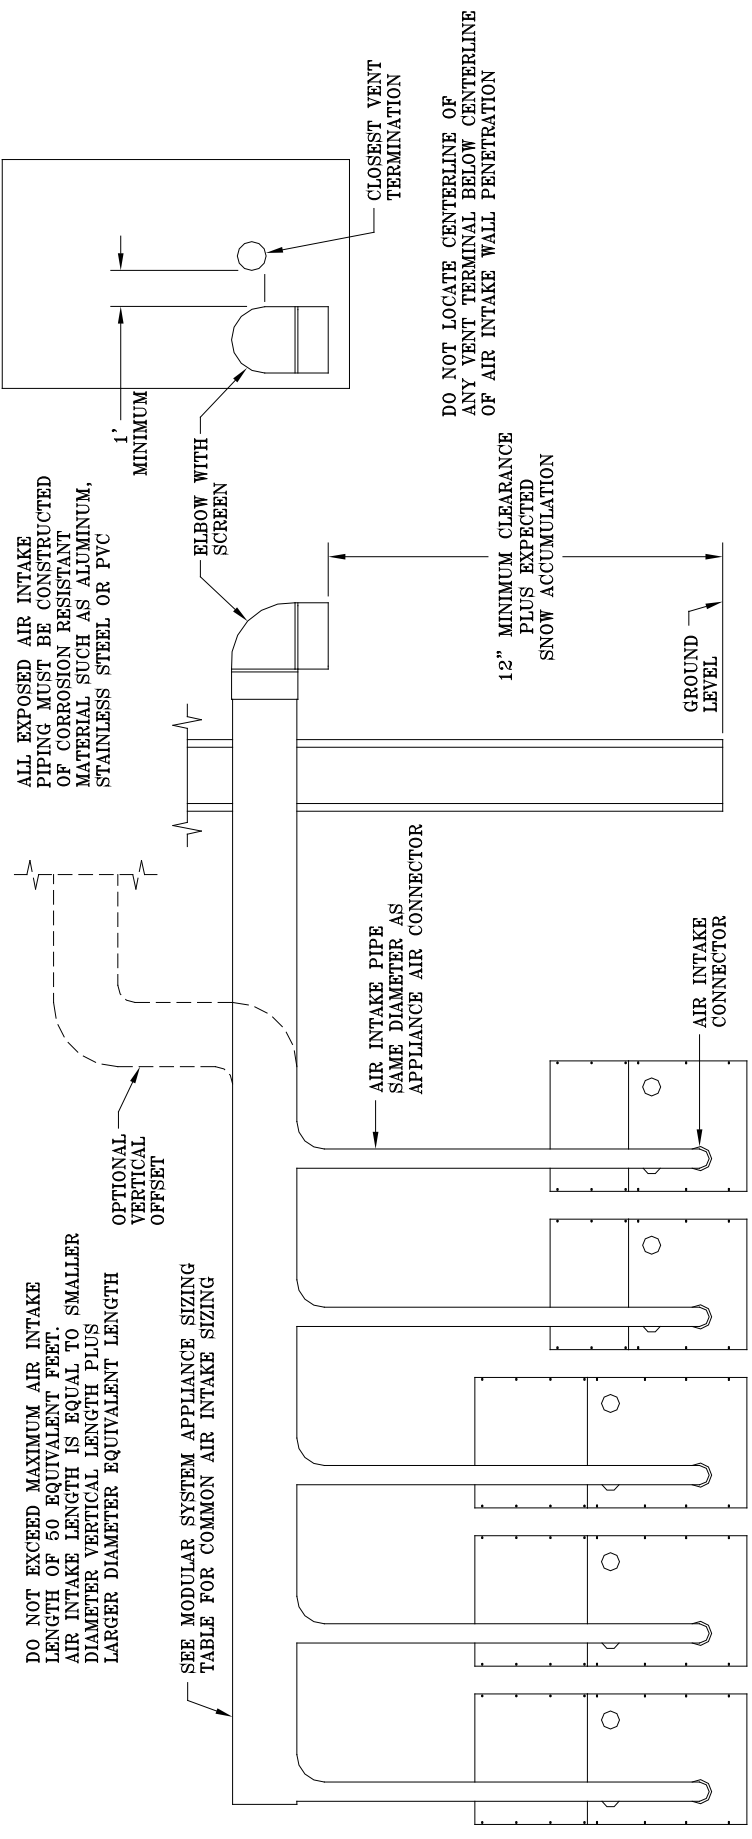
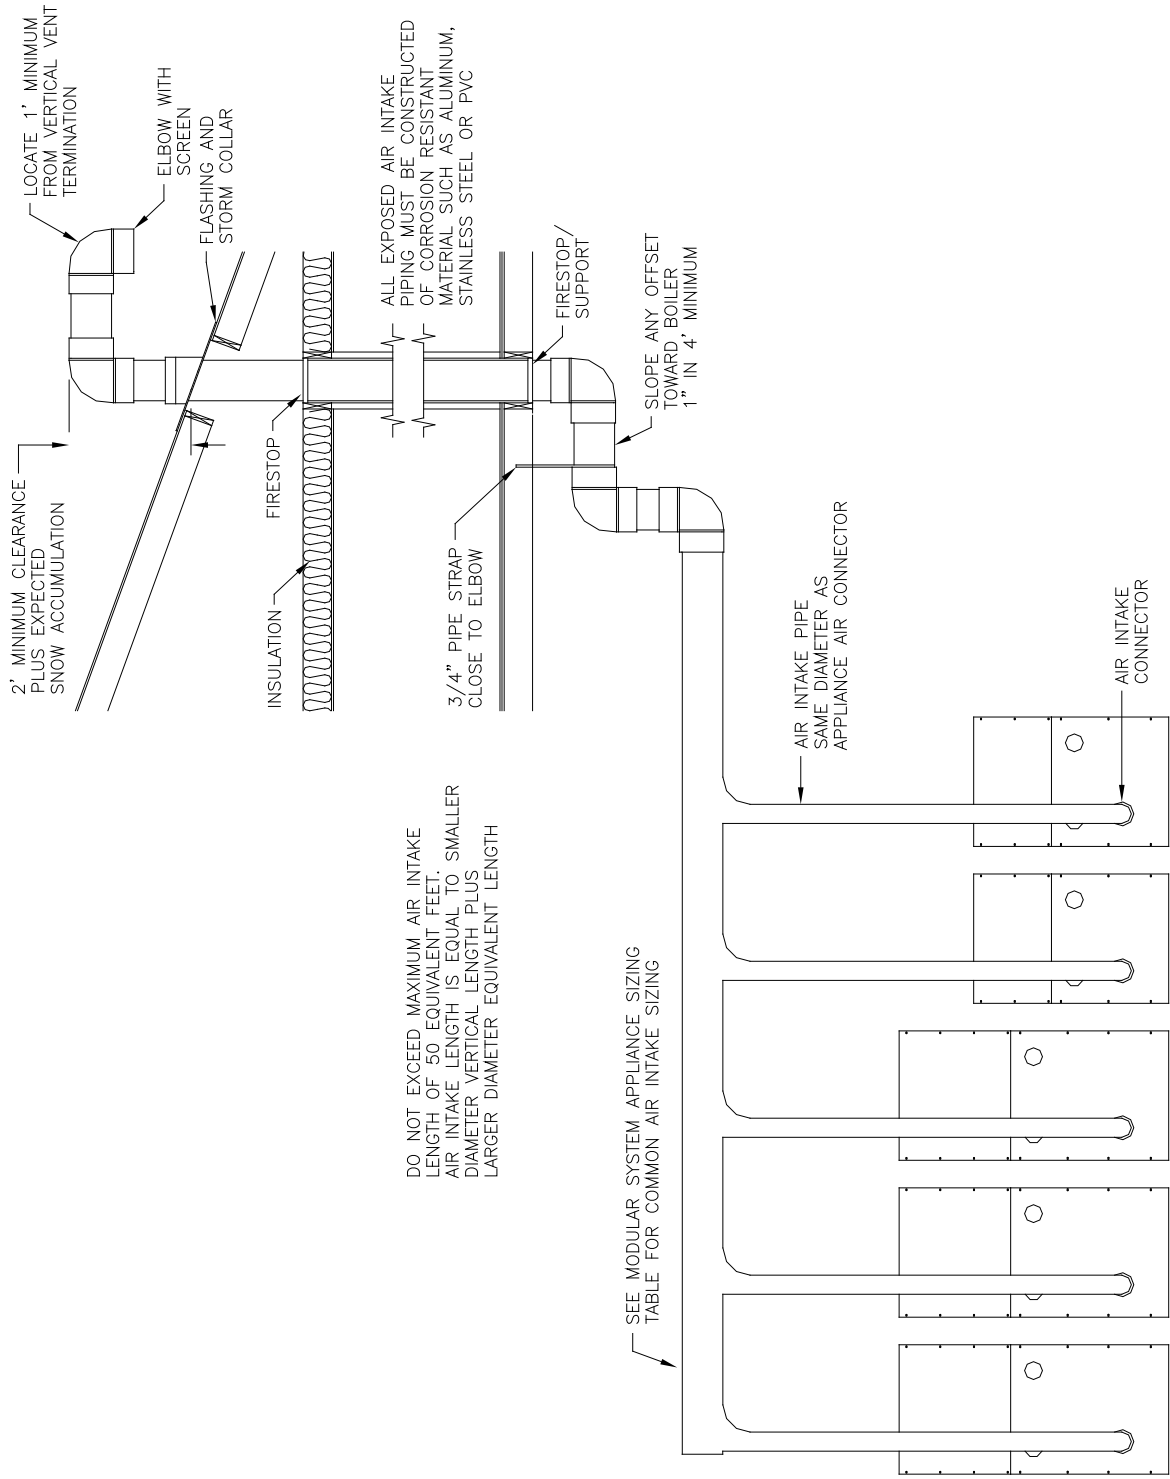

Figure 12: Modular System Horizontal Air Intake Piping
Figure 13: Modular System Vertical Air Intake Piping
- b. Refer to Figure 12 and Figure 13 for common air intake guidelines for modular water heaters.
- d. The maximum air intake length is fifty (50) equivalent feet. Common air intake straight lengths and fittings should be assumed to have the equivalent length the same as an individual air intake pipe, used for a given water heater intake pipe diameter.
- f. Vertical air intake pipe must terminate at least two (2) feet above the closest portion of the roof.